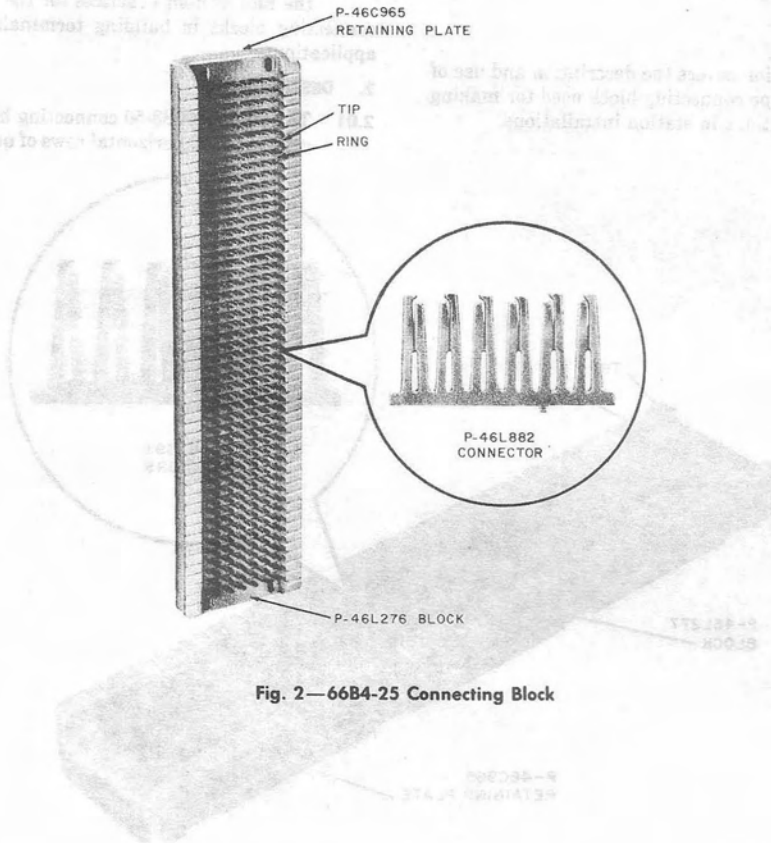

Fig. 2—66B4-25 Connecting Block
2.02 The 25-pair 66B4-25 connecting block (Fig. 2) is identical in construction to the 66B3-50 connecting block except that each row of terminals consists of one P-46L882 connector with six interconnected terminals. This block is molded from gray fire-retardant plastic and can be easily distinguished from the white 66B3-50 connecting block.